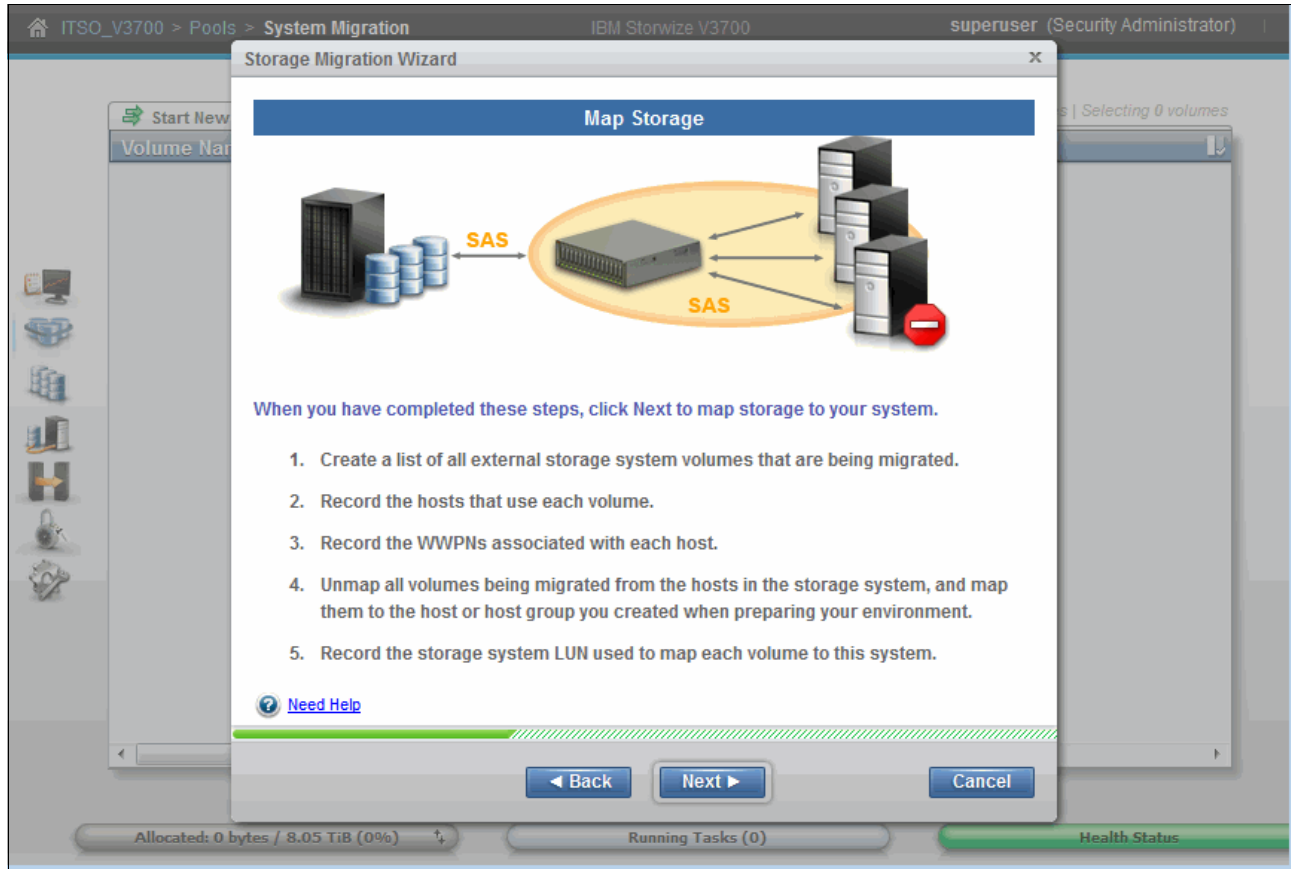

Figure 6-36 Directions to record volume migration data
The next pane, shown in Figure 6-36, directs you to record information about the LUNs to be migrated, their hosts, the host adapter WWPNs, and the SCSI IDs. It also prompts you to unmap those volumes to be migrated from their hosts, and to remap them to the new host group definition for the Storwize V3700.
- We are now in a position to move to the next stage of the Storwize V3700 Data Migration wizard. Click **Next** to continue, as shown in Figure 6-36 on page 278.